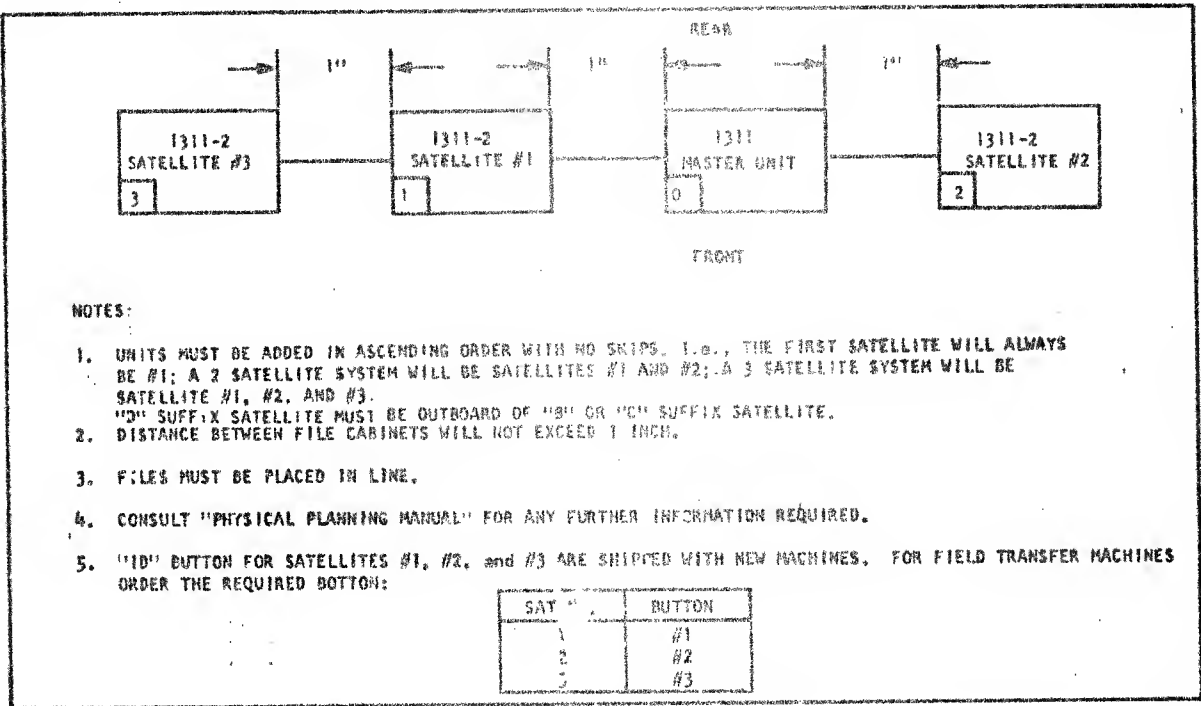

FIGURE 1. SATELLITE PHYSICAL PLACEMENT REQUIREMENTS.
- 2. PLACE DISK STORAGE UNITS IN PROPER POSITIONS (SEE FIGURE 1).